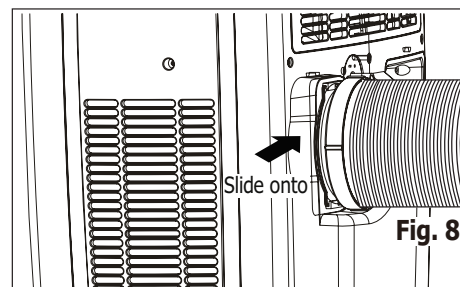

Fig. 8
5. Slide the assembly onto unit (Fig. 8).